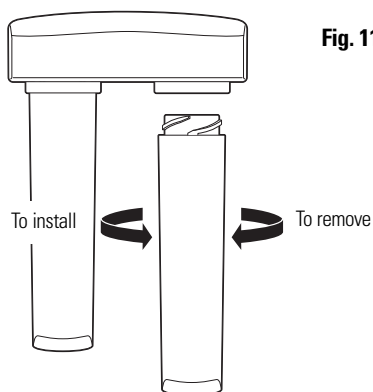

Fig. 11
1. Remove the filter canisters from the manifold by rotating the canisters to the left about 1/3 turn (Fig. 11). **NOTE:** A small amount of water from the tubing between the filter and the faucet may come out. A small towel should be able to catch it.